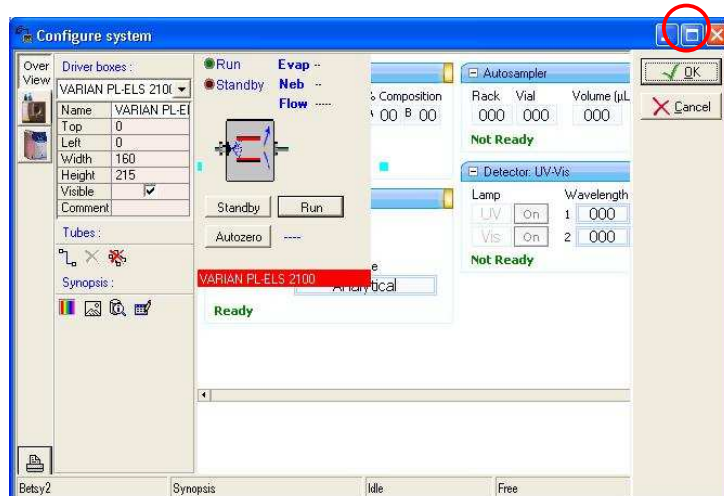
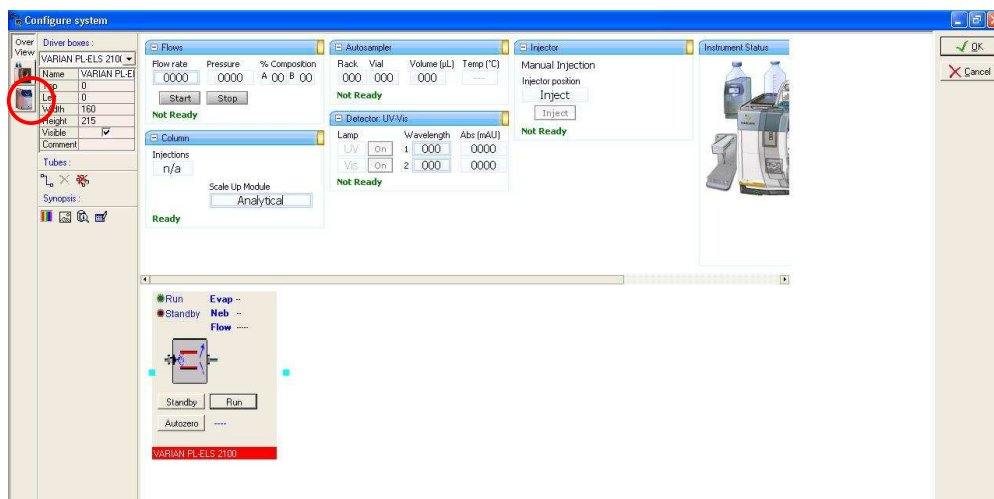

Figure 8: Configure System Screen Capture
Figure 9: Configure System Screen Capture
9. The screen shown in Fig 8 will appear after approximately 30seconds.
10. The picture for the ELSD covers the 900-LC instrument. Don't panic simply enlarge the screen by clicking on the maximise button in the top right corner (Fig 8). Move the ELSD picture by clicking on it and move it below the 900-LC driver as shown in Fig 9.
11. Notice that the ELSD picture is now below the 900-LC instrument picture. Click on the ELSD picture on the left hand side panel (Fig 9).